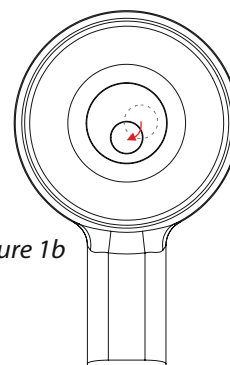

Figure 1b
- For increased positive caster, position sleeve as shown in Figure 1b.